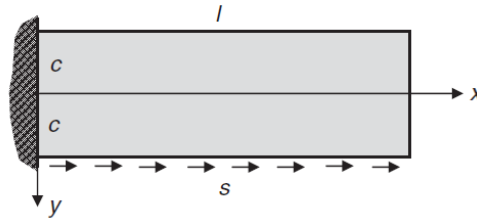

Figure 2
7. Consider the cantilever beam (of unit width) loaded by uniform shear along its bottom edge as shown in Figure 2. Use appropriate conditions (pointwise boundary conditions on the horizontal surfaces and resultant conditions on the vertical surfaces) to find the stress field given that the required Airy stress function is of the form $\varphi = Axy + By^2 + Cy^3 + Dxy^2 + Exy^3$.